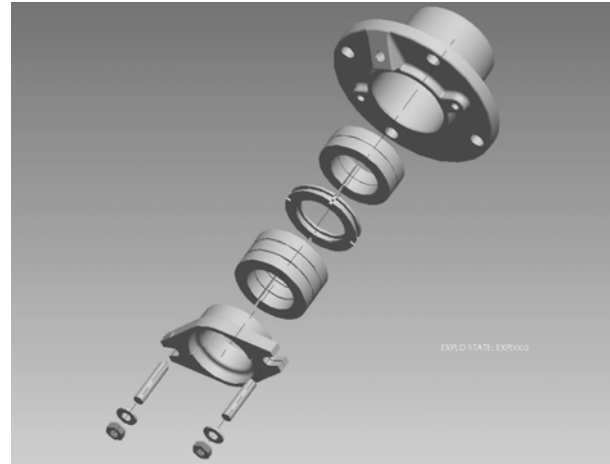

Figure 46: Exploded View of Stuffing Box with Lantern Ring
8. Assemble the glands, studs, washers, and nuts square with the stuffing box and pull up tight. (See Figure 46 of an exploded assembly.)
- Install the lip seal into the bearing cap bore. The lip seal should sit against the bottom of the machined bore. The lip should face away from the bearing cavity. Install the bearing cap onto the shaft. (See Figure 46.)